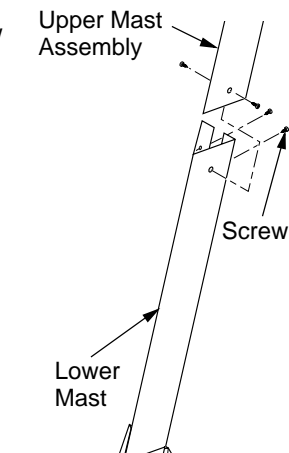

Figure 8 - Attaching Upper Mast Assembly
8. Slide upper mast assembly over lower mast and install using 4 screws provided (see Figure 8).